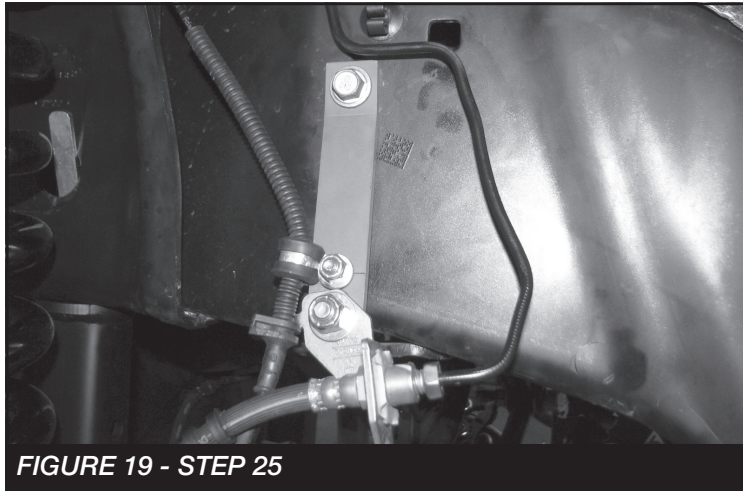

FIGURE 19 - STEP 25
25. **(PASSENGER SIDE)** Install FT30660 (Brake line bracket) to the factory brake line tab using the supplied 3/8" hardware (Use lower hole). Next, using the supplied rubber clamp and 1/4" hardware, attach the ABS line to the upper hole on the FT30660 bracket. Re attach to the frame using the factory hardware. Torque 3/8" & factory hardware to 52 ft-lbs. Torque 1/4" hardware to 14 ft-lbs. **SEE FIGURE 19**